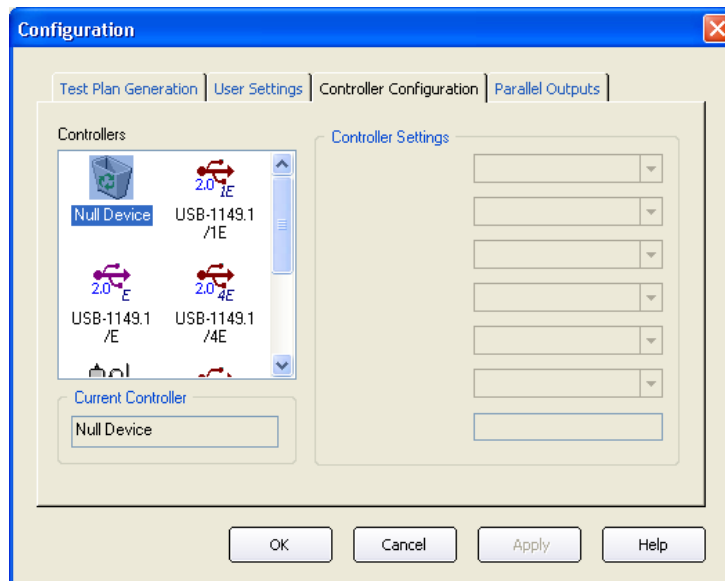

Figure 4-1. Controller Configuration Screen
3. Click the **Setup** menu item and then select the **Controller** entry to display the Controller Configuration screen shown in Figure 4-1.